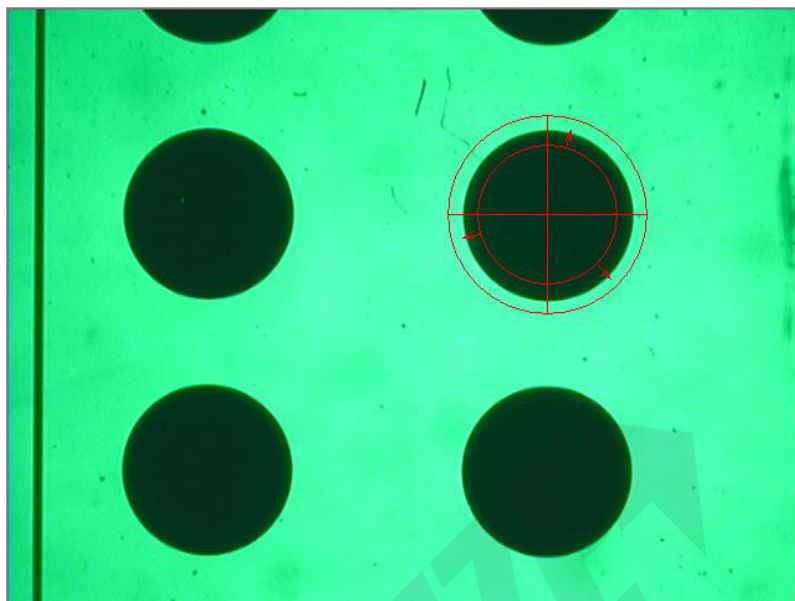

Fig.2-2
4. Put the mouse near the circle and click the left key, the intelligent edge detecting button will appear (Fig.2-2).